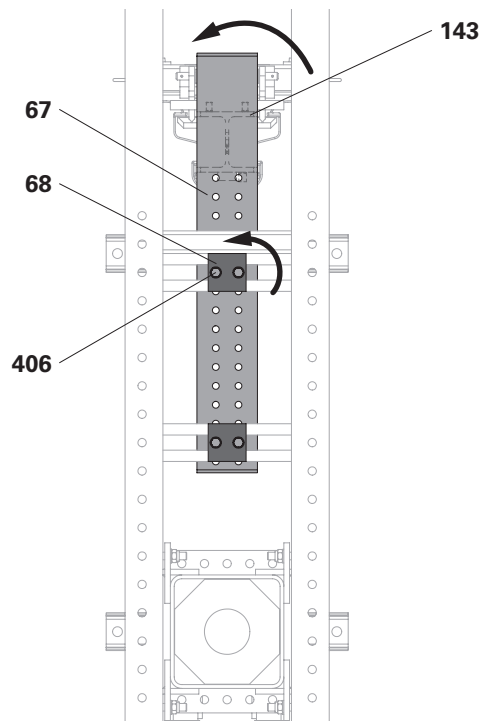

Fig. C6.08
1. Rotate Panel Beam 1110 IPB 160 ACS (67) and Counterplate 100 x 100 x 15 ACS (68) into the installation position.
2. Fit and tighten the screws (406).
Fig. C6.08 shows the Climbing Rail ACS (143) and the Panel Beam 1110 IPB 160 ACS (67) after installation.